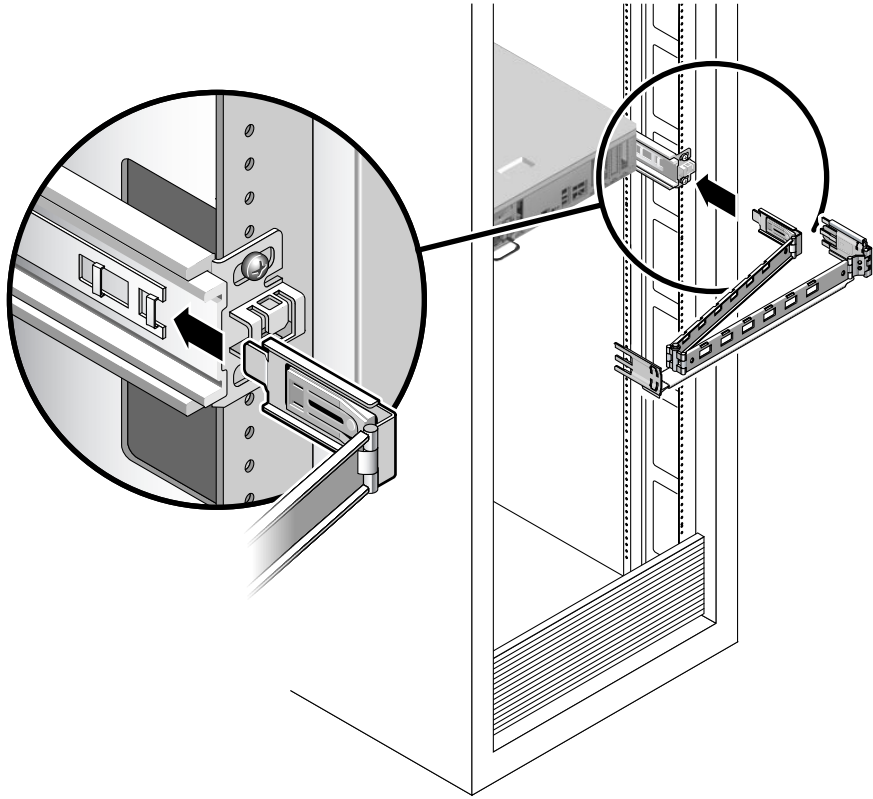

FIGURE 5-32 Installing the CMA
- a. **Insert the inner latch (smaller, right side) into the clip located at the end of the mounting bracket (FIGURE 5-32).**